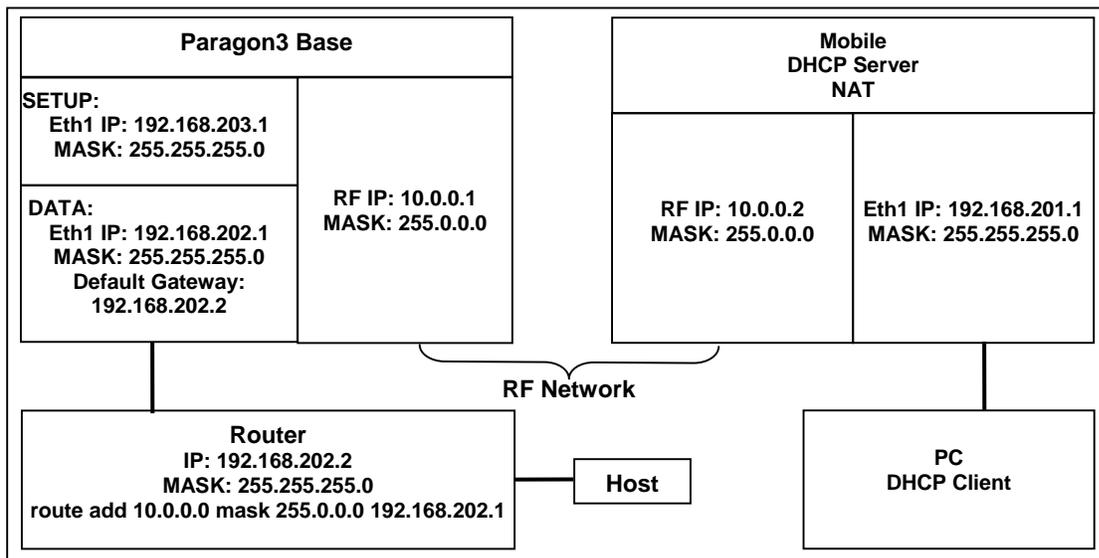

Figure 13 - IP Network Settings in Router Mode (with Router)
Figure 13 below illustrates Paragon4 base station settings. In Setup (Advanced) → LAN (IP), set the data Interface 1 port (Eth1) IP addresses (set the setup Interface 2 port (Eth2)) and IP netmask of both Base and Mobile(s).